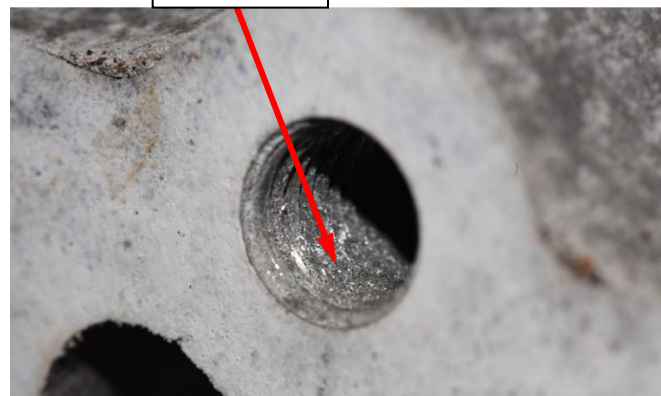

Figure 11 – Inspect for Thread Loss
NOTE: Pay attention to the bolts for signs of thread loss or bolt breakage as they are removed and note which hole they came from (Figure 11).
18. Inspect the bolts and bolt holes for any signs of thread loss then **DISCARD** the bolts (Figure 11).